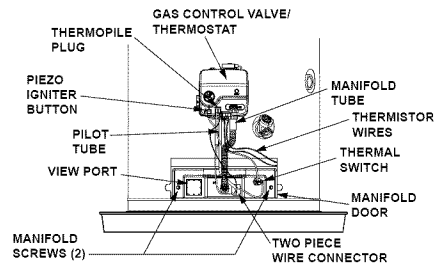

FIGURE 33.
4. Remove the two screws securing the manifold door assembly to the combustion chamber (Figure 33).